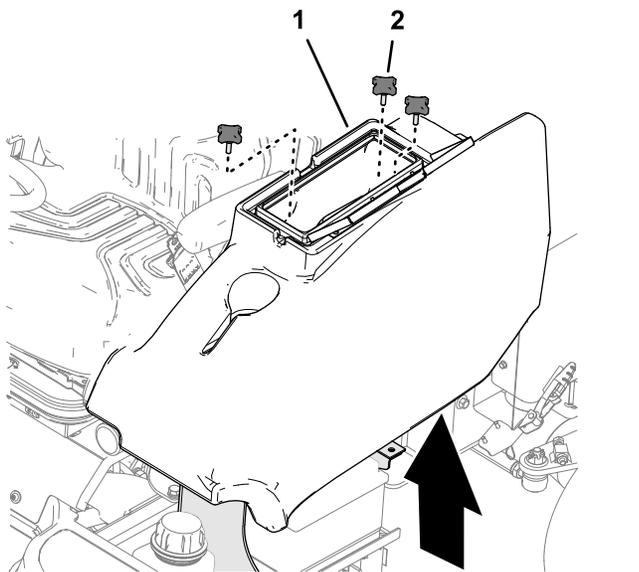

Figure 47
- At the left side of the operator's platform, open the door of the storage compartment (Figure 47).
- Remove the 3 knobs that secure the storage compartment to the machine, and remove the compartment (Figure 47).